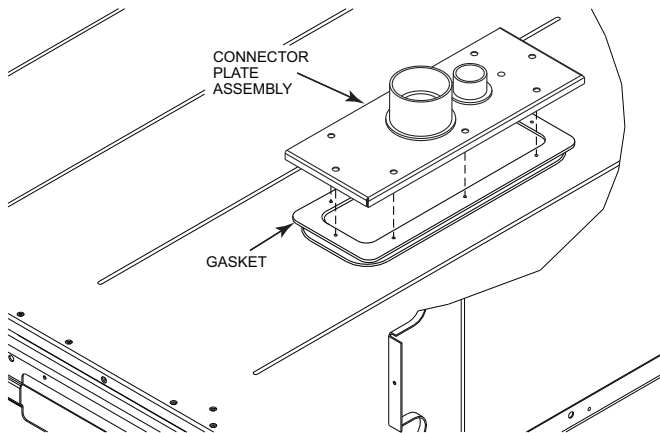

Fig. 72 — Installing Thru-the Base Option (Size 16)
3. Place the gasket over the embossed area in the basepan, aligning the holes in the gasket to the holes in the basepan. See Fig. 72.